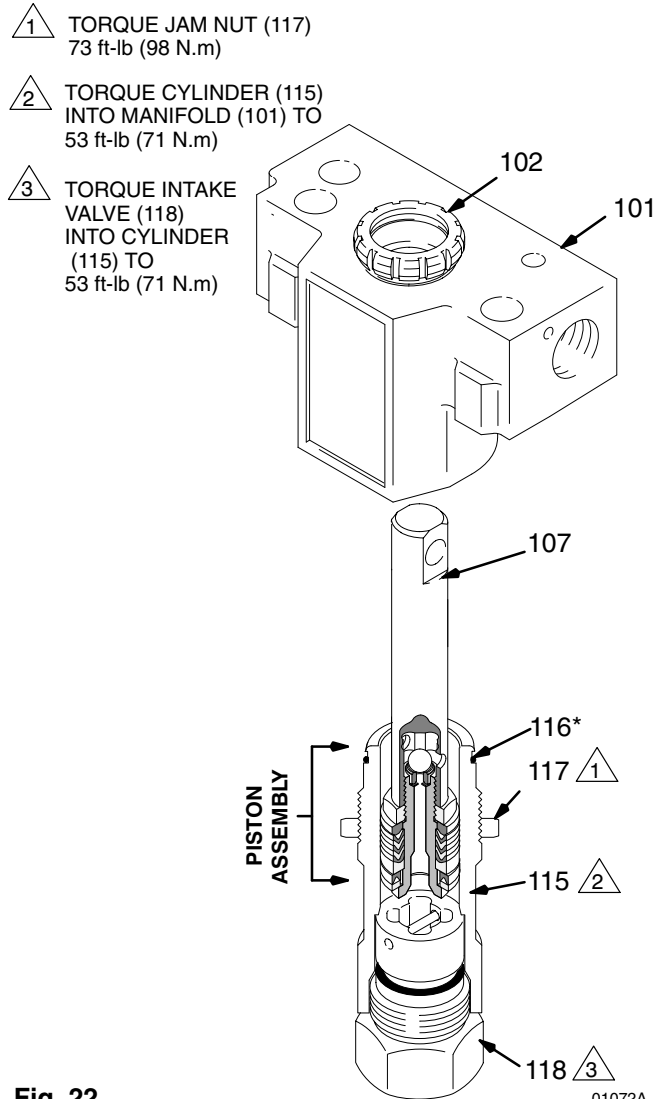

Fig. 22
11. Place a new o-ring (116\*) firmly in the cylinder groove. See Fig. 22.
12. Coat the piston rod and packings with oil. Carefully slide the assembly **INTO THE TOP OF THE CYLINDER (115)**. See Fig. 22.
13. Put the manifold in a vise. Fully thread the jam nut (117) onto the cylinder (115). Guide the rod/cylinder assembly down through the manifold (101). Screw the cylinder (115) into the manifold. See Fig. 22.
14. Place the ball guide (120), stop pin (122) and ball (121\*) in the cylinder (115). Screw the intake valve into the cylinder and torque to 53 ft-lb (71 N.m). This will also properly torque the cylinder into the manifold. See Fig. 22.
15. Torque the cylinder jam nut (117) to 73 ft-lb (98 N.m). See Fig. 22.